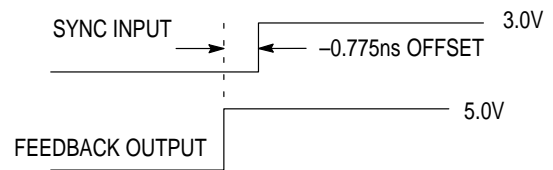

Figure 2. Depiction of the Fixed SYNC to Feedback Offset (t_{PD}) Which is Present When a 1MΩ Resistor is Tied to VCC or Ground
4. A 1MΩ resistor tied to either Analog V_{CC} or Analog GND as shown in Figure 2 is required to ensure no jitter is present on the MC88915T outputs. This technique causes a phase offset between the SYNC input and the output connected to the FEEDBACK input, measured at the input pins. The t_{PD} spec describes how this offset varies with process, temperature, and voltage. The specs were arrived at by measuring the phase relationship for